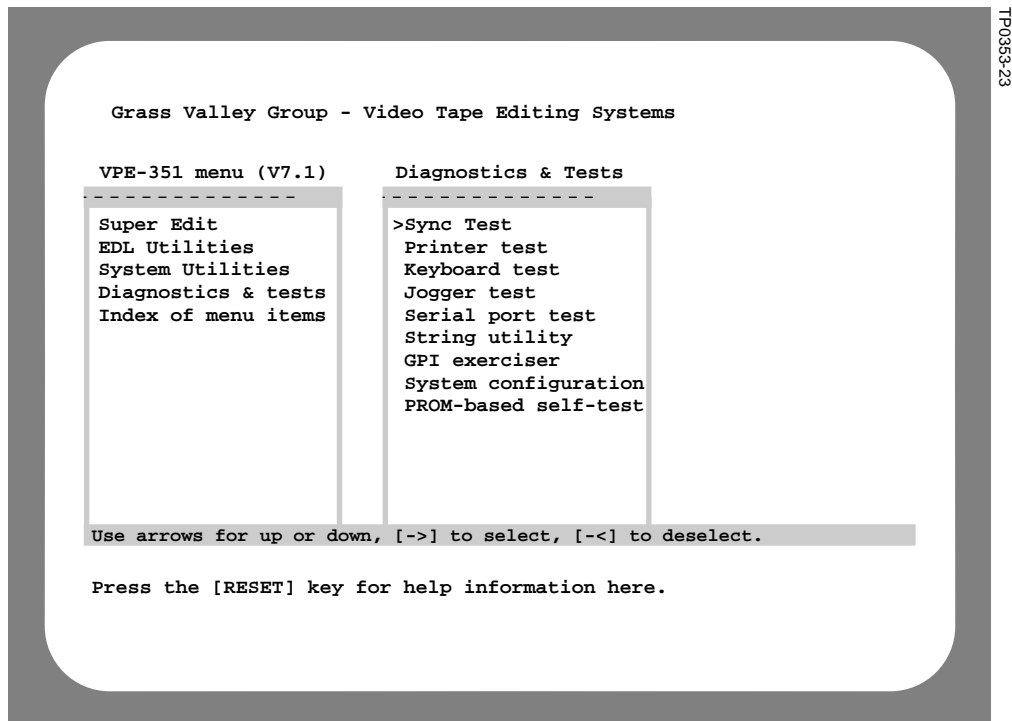

Figure 3-10. Diagnostics &amp; Test Menu
1. Use the [←], [→], [↑], and [↓] keys until the Diagnostics & Tests selection in the left hand column is highlighted and press [ENTER]. The Diagnostics & tests menu appears. (See Figure 3-10 for an example.)